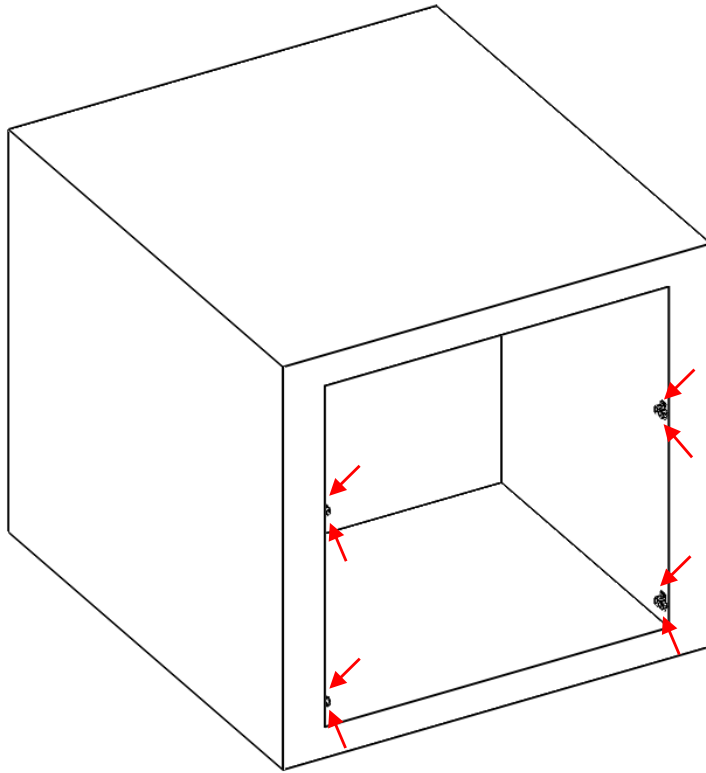
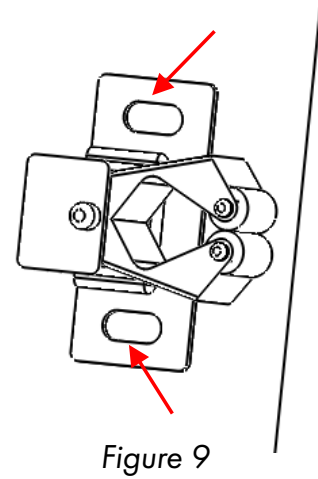

Figure 8
Figure 9
4. Next, slide the outer trim into the cabinet cutout and use a marker or pencil to mark where the buckles line up. Then, remove the trim and secure the four buckle seats into the cabinet using the other eight #2 screws (see *Figure 8*). Make sure the clamp of the buckle seats are facing toward you (see *Figure 9*).